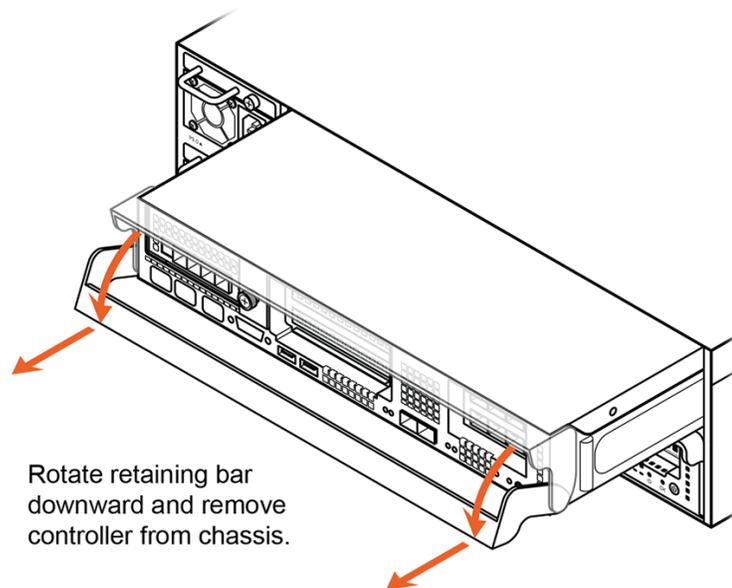

Figure 11-8. Removing a Controller (CT0 Shown)
2. Rotate the CT0 retaining bar downward and remove the controller from the chassis. See Figure 11-8.